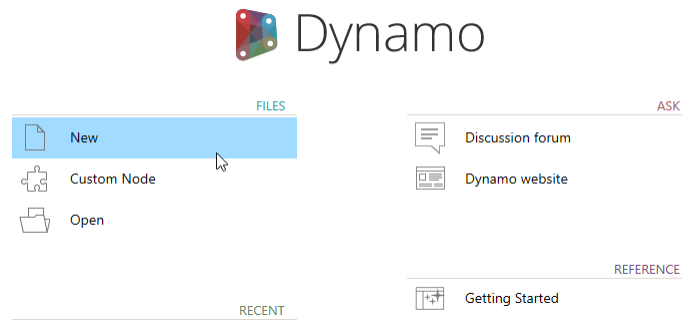

Figure 7
1. From the Manage tab, launch Dynamo and then click the New button on the welcome screen, to create a new Dynamo file (called a "graph") (see Figure 7).